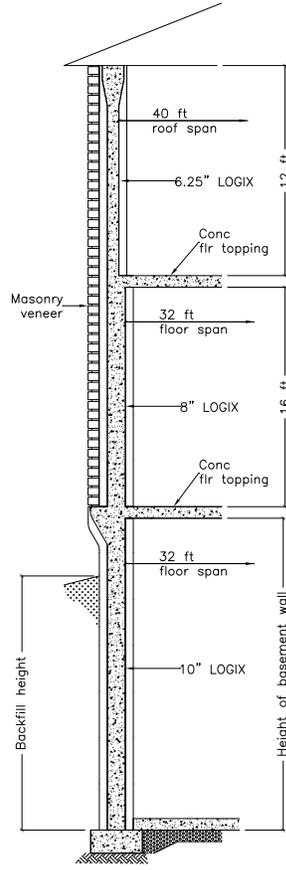

Fig 2C
2. Table 2A shall be read in conjunction with Fig 2C, and "NOTES FOR TABLES 2A TO 2D - LOGIX BELOW-GRADE TABLES."